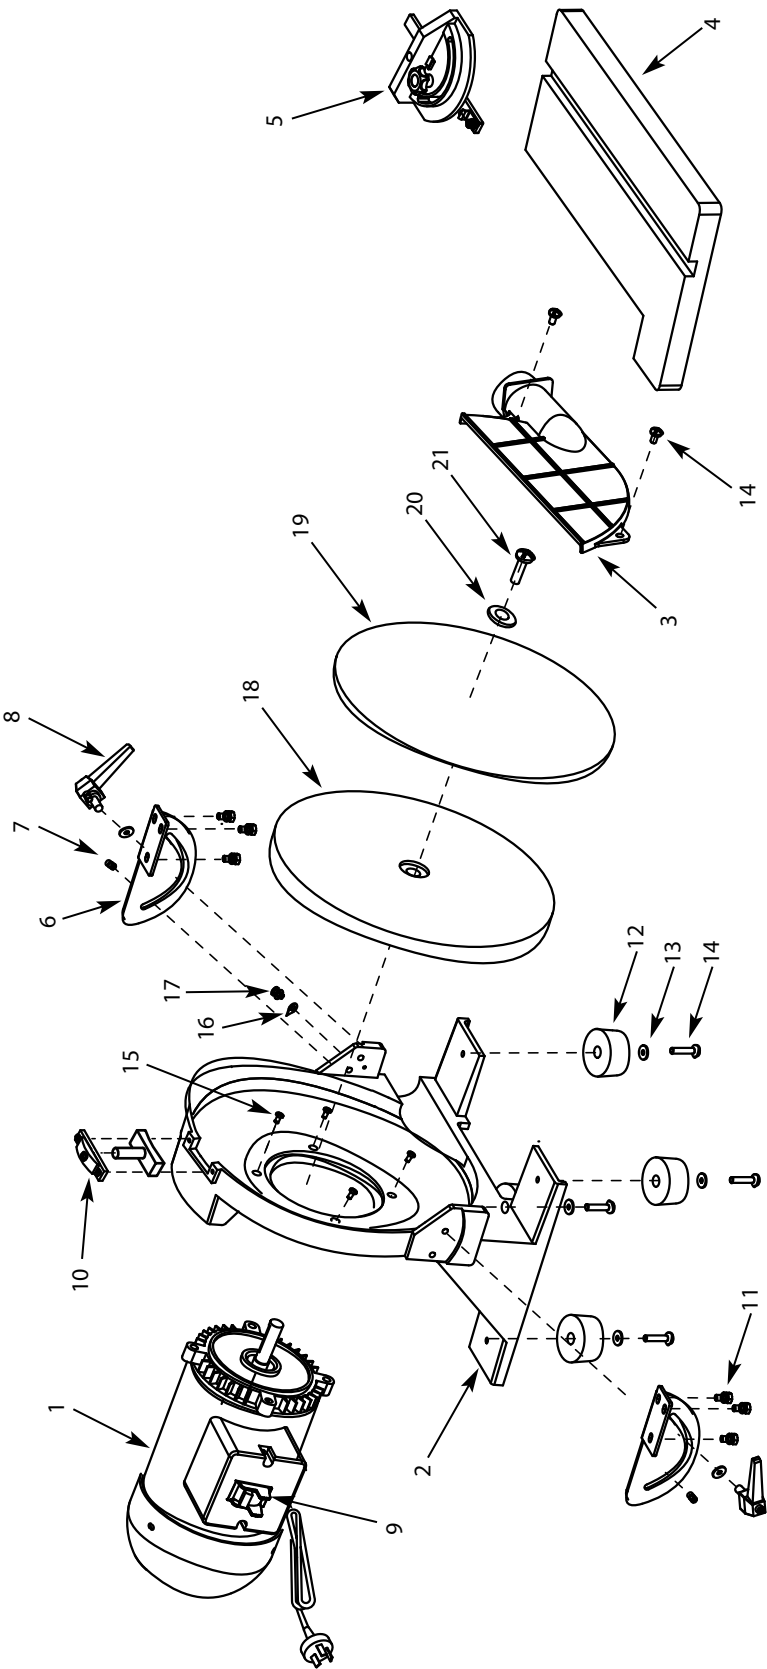

Figure 4 – Repair Parts Illustration for 12" Disc Sander
- To bolt sander to a workbench or tool stand, the feet, bolts, washers and nuts (Fig. 4, Ref. Nos. 16, 17 and 18) must be removed.
Refer to Figure 4, page 6.
Refer to Figure 4, page 6
Refer to Figure 4.